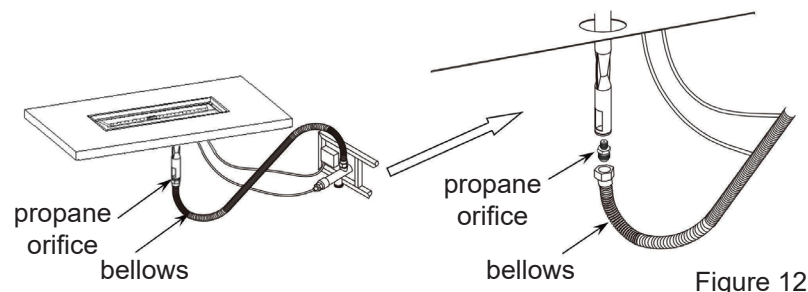

Figure 12
2. Unscrew and disconnect the propane orifice from the bellows (see Figure 12). Propane orifice(2.21 mm diameter size).